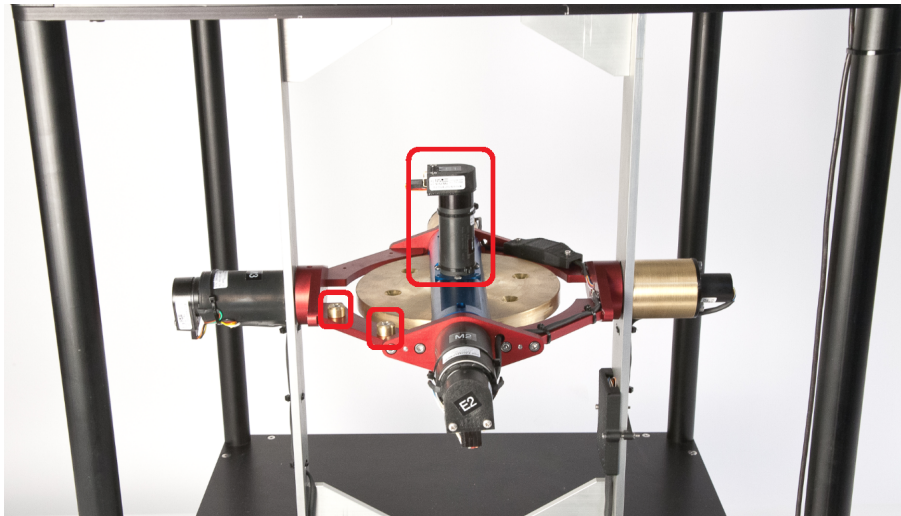

Figure 3.4: Starting position for the 3D GYRO.
1. Place the 3 DOF Gyroscope flywheel, blue and red gimbals in their home starting position. Ensure that the flywheel's motor and the mass counter balances on the red gimbal (identified with red squares in Figure 3.4) are pointing toward the same direction (e.g., all facing up or all facing down).